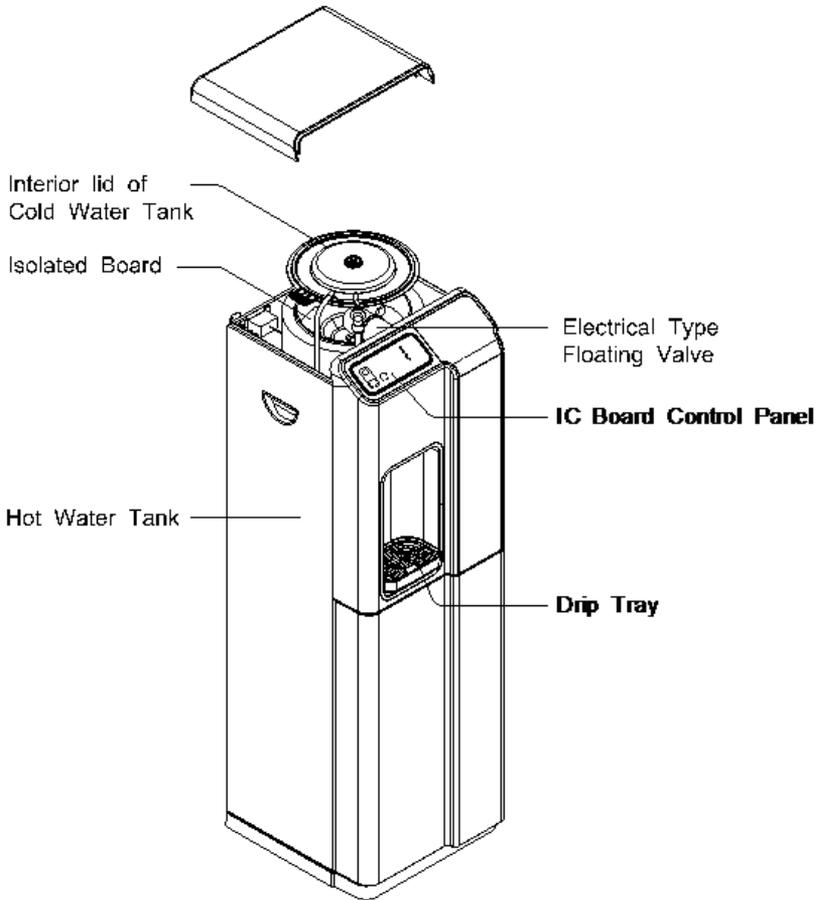

Figure 2. Assembly Drawing Model H20-1000
The Model H2O-1000 provides water at two temperatures. The water is dispensed from two spigots—one “hot” and one “cold.” The assembly drawing is shown in Figure 1 for the H2O-750 and Figure 2 for the H2O-1000. Water flows from the filter system into the top tank, also known as the cold water tank. This tank then feeds the hot tank that is heated by internal heaters. The level in the cold water tank is controlled by a float valve mechanism. This mechanism controls a solenoid valve on the water feed line to maintain a constant level of filtered water. Both models are available with reverse osmosis (RO) or standard filter (F) versions.